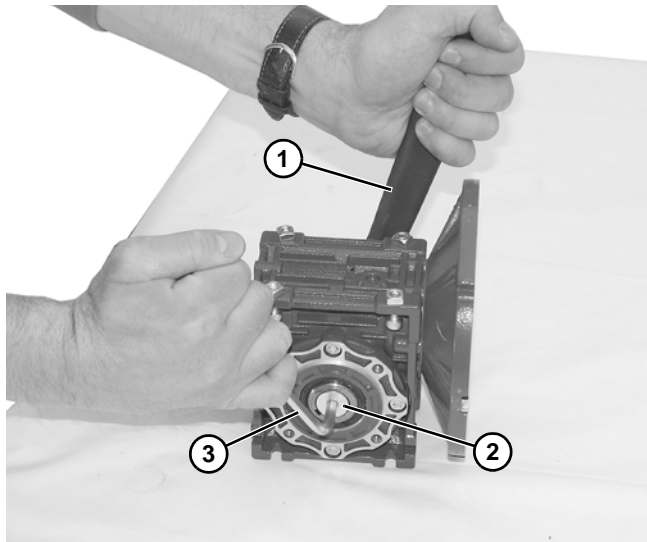

Figure 30
6. Hold the driveshaft with a wrench (**Figure 30, item 1**) as shown to keep shaft from turning, while removing screw (**Figure 30, item 2**) with hex wrench (**Figure 30, item 3**).
11. Hold the driveshaft with a wrench (**Figure 30, item 2**) as shown to keep shaft from turning, while installing screw with hex wrench (**Figure 30, item 3**). Tighten screw to 350 in-lb (39.5 Nm).